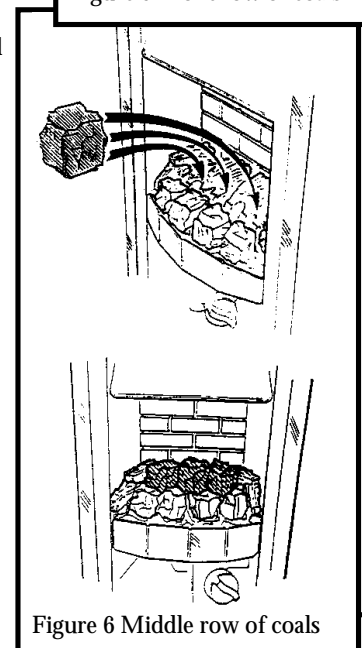

Figure 6 Middle row of coals
3.3 Place three of the remaining coals behind the front row and approximately midway between the front row and the rear ceramic wall of the firebox. See figure 6.